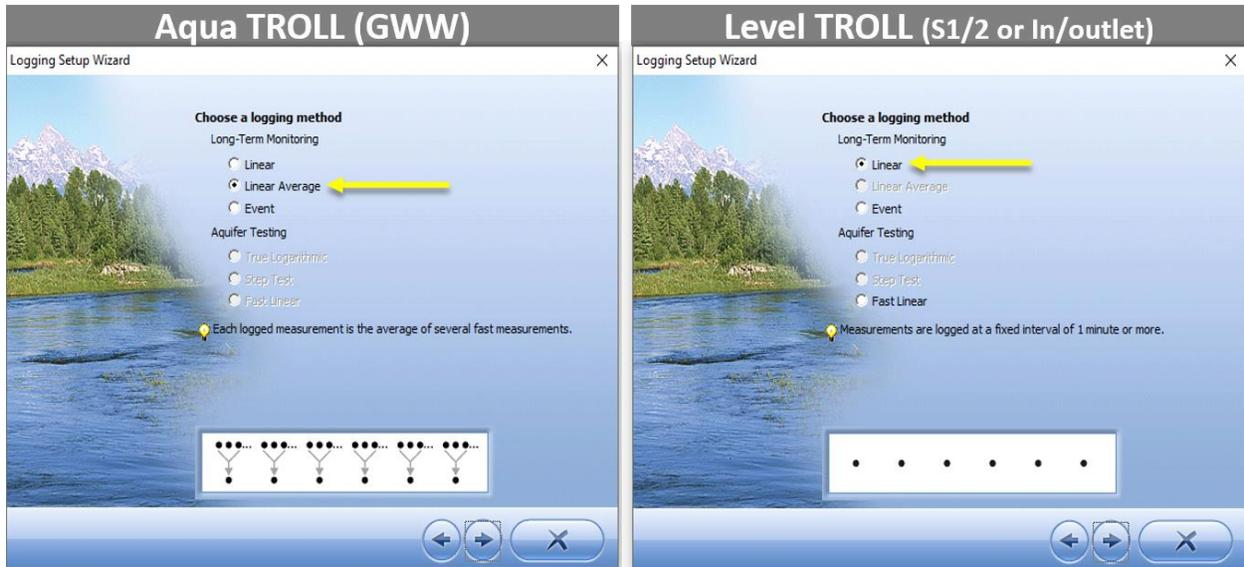

Figure 14. Choose a Long-Term Logging Method - Linear Average for Aqua TROLL & Linear for Level TROLL
6. Under **Choose a logging method** (Long-Term Monitoring), select **Linear Average** for Aqua TROLLS and **Linear** for Level TROLLS (**Figure 14**).